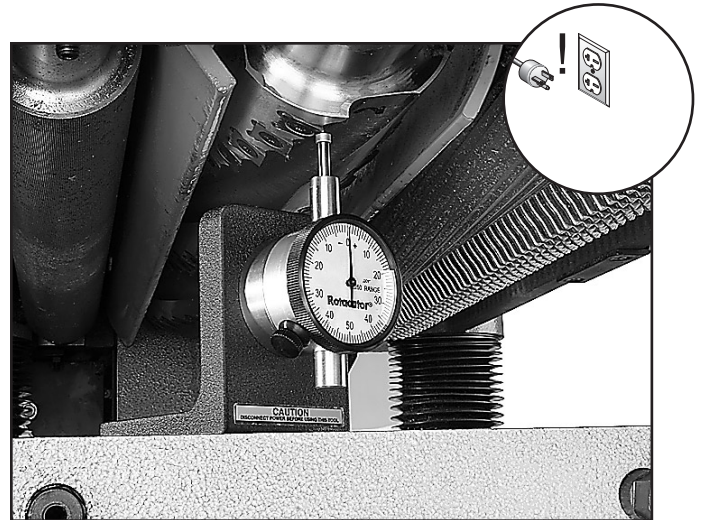

Figure 29. Example of finding BDC with the Rotacator.
4. Using a Rotacator, find BDC of any carbide insert edge by slowly rocking the cutterhead pulley back and forth, and set the Rotacator dial to zero, as shown in **Figure 29**.